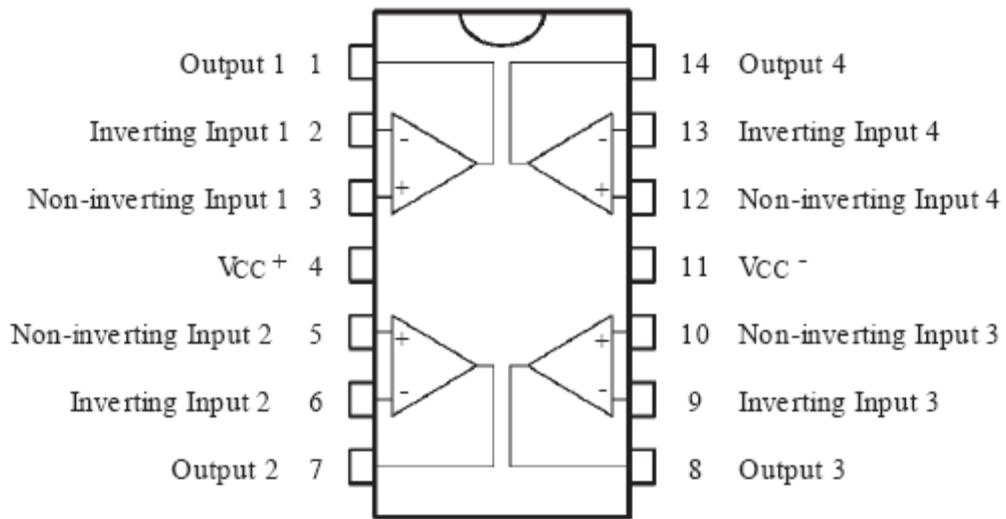

Figure 3.1 Pin Diagram of LM324
- LM324 IC has four operational amplifiers, out of which, 2 are used as comparators. The pin diagram of LM324 is given in figure 3.1.